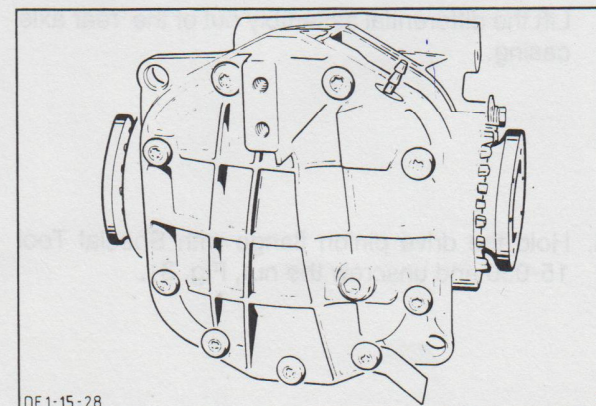

Fig. 28. Cover of rear axle casing.
2. Remove the cover from the rear axle casing (9 Tor bolts) and drain the oil, Fig. 28.